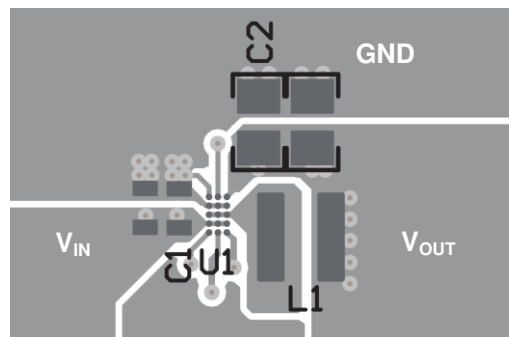

图 11-1. Layout Example
- Refer to Figure 11-1 for an example of component placement, routing, and thermal design.